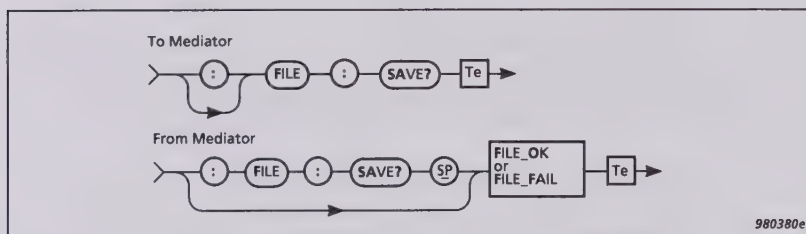

Fig. 11.18 Syntax for the File:SAve command
**SAve?** is used for storing the current measurement file (refer to section 6.1.1 for information about saved data). The file is saved with a file number and an extension that identifies the current software module, for example, **005.M26**. The syntax for the **SAve?** query is shown in Fig. 11.18.